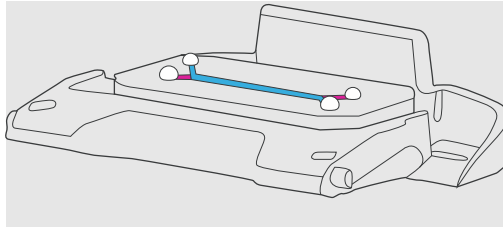

Figure 4. Chip inserted into chip carrier with small droplets of ECM solution at ports
4. Introduce ECM solution through the top channel inlet, leaving small droplets of excess ECM solution on both ports in both channels (See Figure 4).